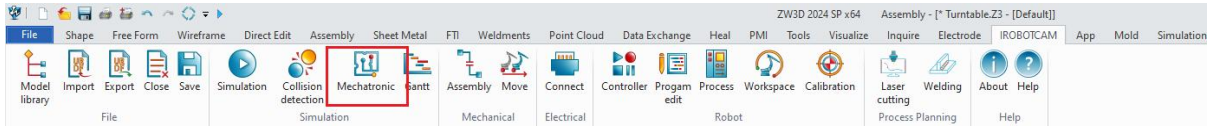

Figure 13-31: Mechatronic button
- Click the "Mechatronic" button.(Figure 13-31)